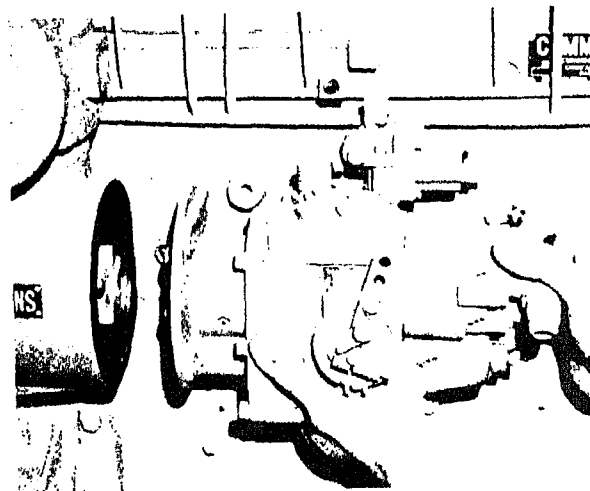

Fig. 0-12. Removing fuel pump
- and lift fuel pump from engine, Fig. 0-12; discard gasket.